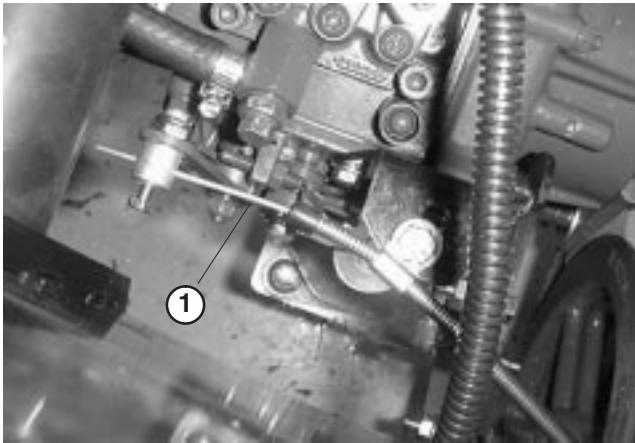

Figure 57
1. Adjust throttle cable (Fig. 57) so governor lever on engine contacts low and high speed set bolts before throttle lever contacts slot in control panel.